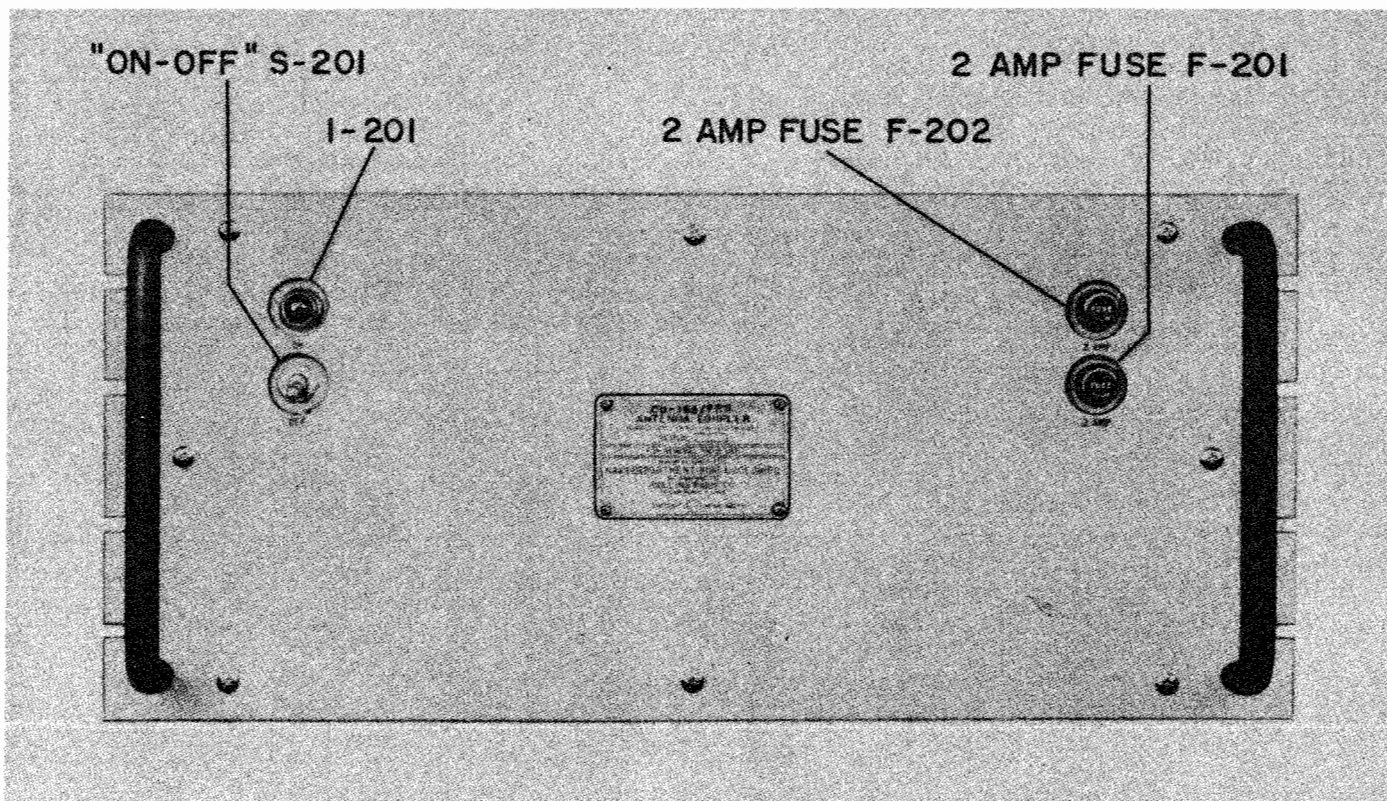

Figure 4-1. Antenna Coupler CU-168/FRR, Panel, Front View
2. OPERATION. (See figure 4-1.)
with a new or tested tube of the same type, or remove and check all tubes on a standard tube tester such as Tube Tester TV-3/U series, Navy Model OZ series or equivalent. For tube locations, see figures 1-2 and 7-5. For fuse locations, see figure 4-1.